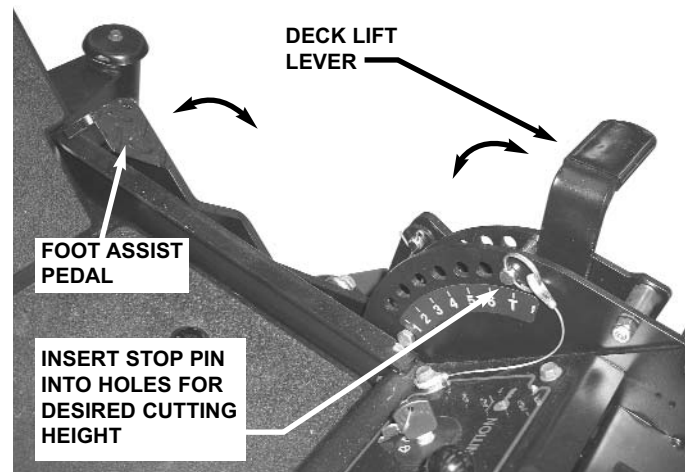

FIGURE 3.3
3.1.8. Place mower in desired cutting height setting. Grasp deck lift lever and move lever to desired cutting height setting. Insert stop pin to desired cutting height. **IMPORTANT:** There is a foot assist pedal located to the right front side of the footrest. Always use this assist pedal to raise or lower the deck to the desired cutting height. See Figure 3.3.